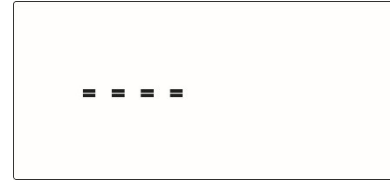

Fig. 021
3. When the computer detects a heart rate, an image is displayed (Fig. 021) for 8 seconds until the end of the measurement.